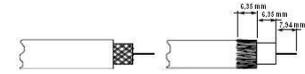

Fig. 1
4. With 3-fold or 4-fold shielded cables you must remove the outer foil. Fold the braided shield back 180° over the cable sheathing. Make sure that the folded back braiding does not billow or agglomerate (Fig. 1).